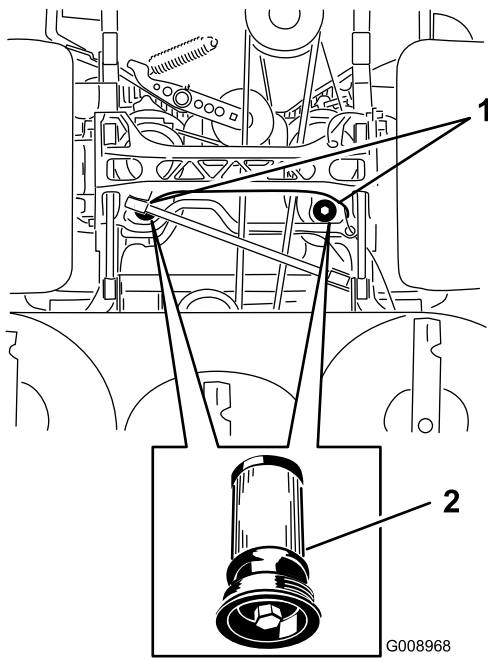

Figure 87
5. Place a drain pan under the filter, remove the old filter, and wipe the surface clean (Figure 87).
6. Apply a thin coat of hydraulic oil to the rubber gasket on the replacement filter (Figure 87).